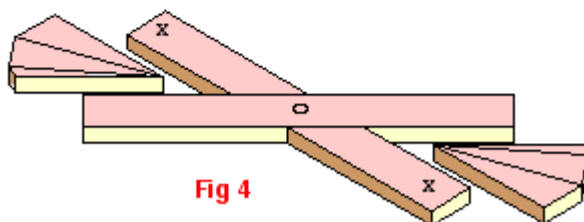
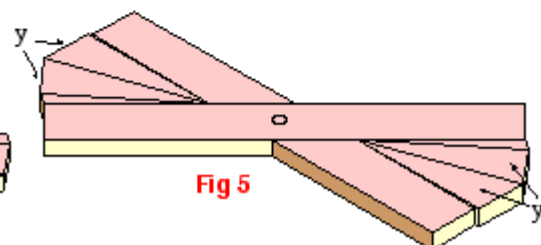
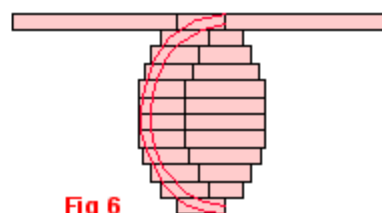

Fig 4
Fig 5
Fig 6
up and thread on first the base board No 1, (counter drilled 1" hole downwards. Position the two halves of board No 2 as shown at Fig 4 x, then thread on boards No 3 to 12. Loosely position the two halves of board No 13. This dry run should look like the drawings at Fig 7 and Fig 9. Fig 6 shows side elevation view without boards No. 1 and No 2.
Fig 10, 11 & 12 shows the make up plan for the wedges which make the top of the table. Fig 4 & 5 also show how three wedges each are used to make the base. The wedges are first glued up oversize then accurately sawn and planed to fit.
12. Prepare the wedges to the measurements shown at Fig 12. Good quality rub joint faces are required. Biscuits or dowels can be used to reinforce the joint line. Fig 10 shows the plan view of the table top segments glued in position, Fig 8 shows another perspective of the wedges used to build the top. Also prepare the two sets of fan segments shown at Fig 4 and Fig 5 for the base. Again, allow these to be oversize.
a. Glue the two halves of No 2 to the sides of No 1 see Fig 4
15. Glue the base wedges shown at Fig 5. y into position. Ensure close fitting rub joints are achieved. Pull these wedges into each other thus tightly into the corner with a sash clamp position from y to y at Fig 5